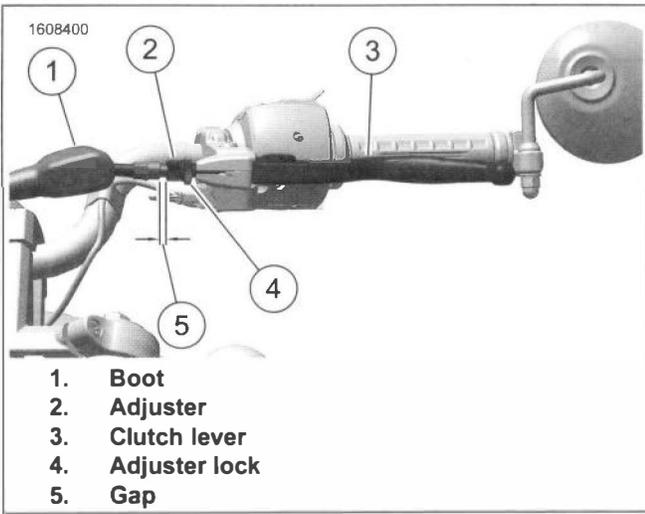

Figure 2-15. Clutch Lever Adjustment
3. See Figure 2-15. Slide clutch boot (1) back.
4. Operate the clutch lever (3) 3-4 times.
5. Check free play (5) specification. Refer to Table 2-9.
- b. Measure gap between adjuster (2) and the shoulder of the metal ferrule on the cable sheathing.
4. Operate clutch lever (3) 3-4 times assuring cable is properly seated.
5. Loosen adjuster lock (4).